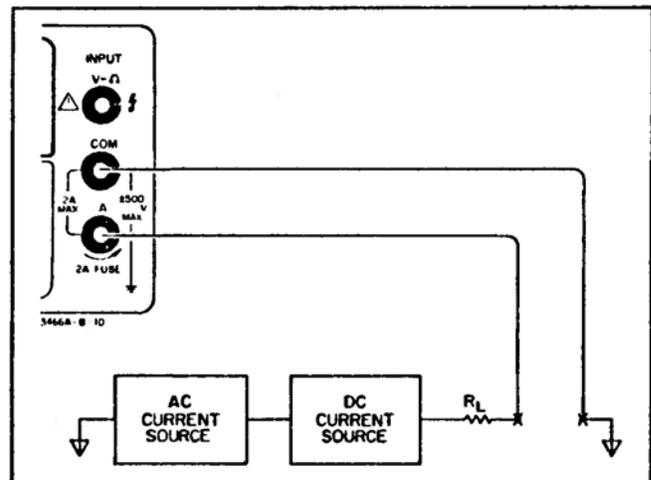

Figure 3-10. True RMS Current Measurement
- c. Connect test leads from the Multimeter A and COM terminals in series with the current under test as shown in Figure 3-10.